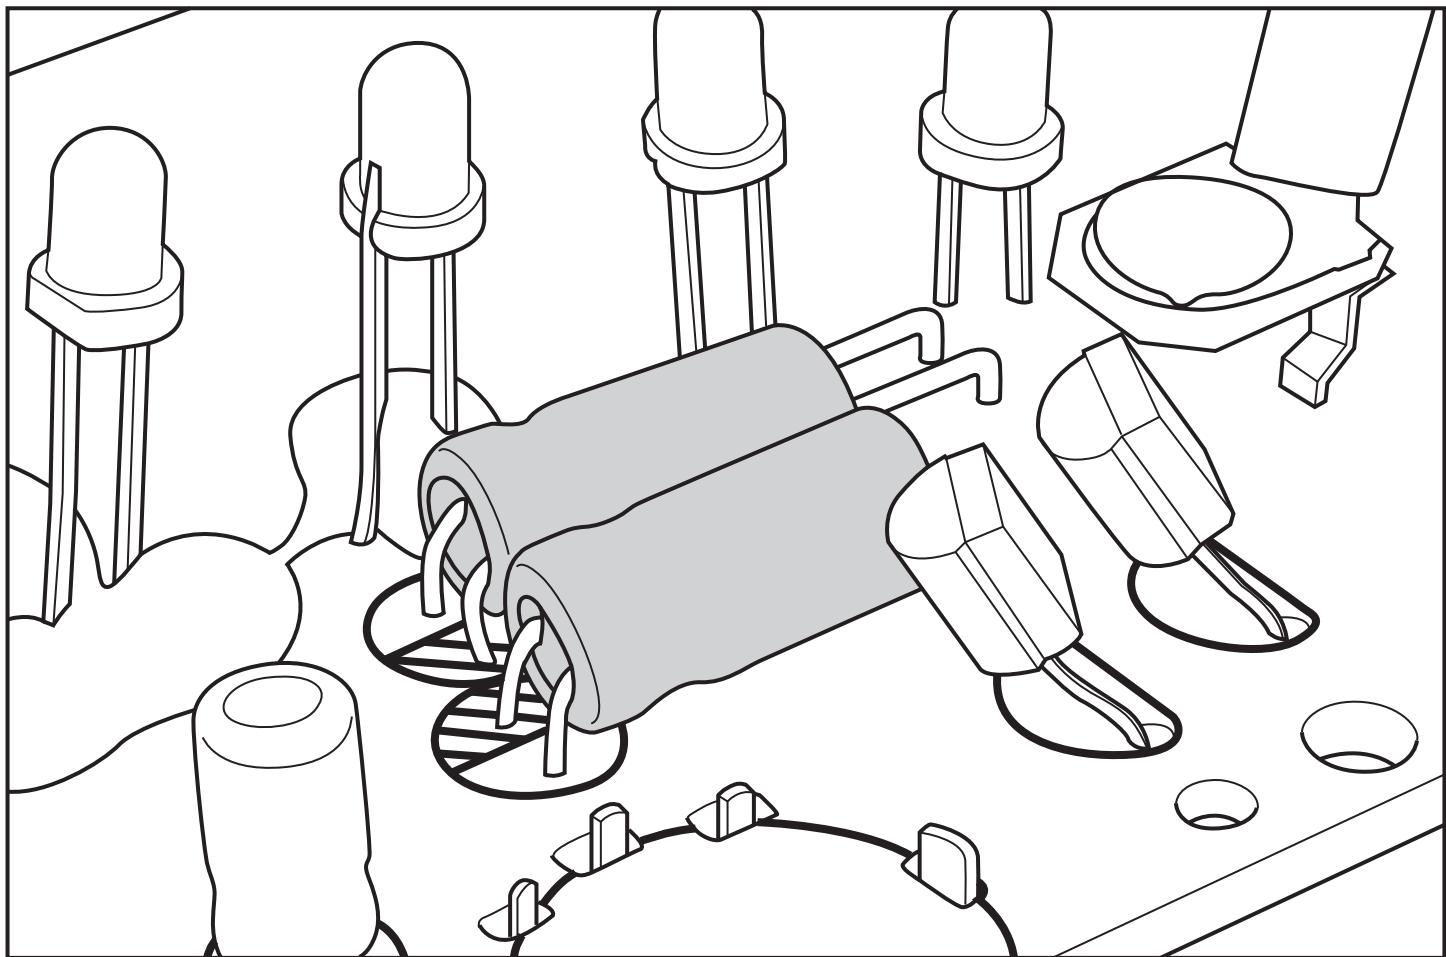

Fig. 8
- (ii) Fig. 8 shows two radial capacitors on the circuit board, bent to a horizontal position.**